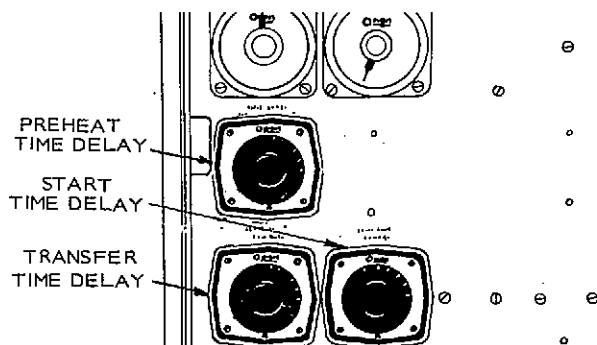

FIGURE 19. START AND TRANSFER TIME DELAY RELAYS
2. Turn the knob on the time delay clockwise to increase delay time, counterclockwise to decrease the delay time. See Figure 19.